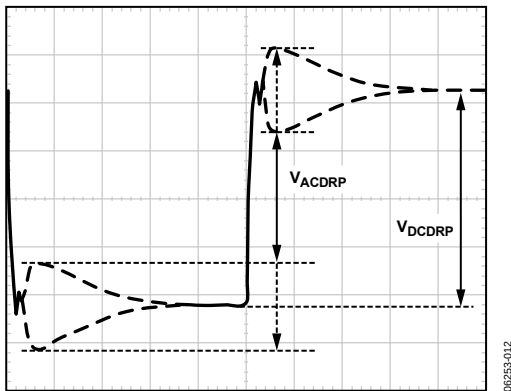

Figure 15. AC Load Line Waveform
14. Measure the output waveform (use dc offset on scope to see the waveform). Try to use a vertical scale of 100 mV/div or finer. This waveform should look similar to Figure 15.
15. Use the horizontal cursors to measure V_{ACDRP} and V_{DCDRP} as shown in Figure 15. Do not measure the undershoot or overshoot that happens immediately after this step.